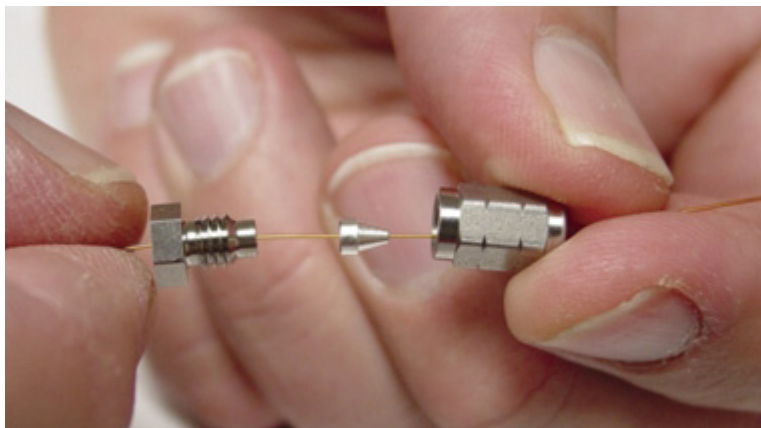

Figure 4 Assemble the internal nut, ferrule, and swaging nut
- 2 Pass the tubing end through the internal nut and SilTite ferrule leaving approximately 1 cm of fused silica tubing protruding beyond the ferrule. Thread the ferrule pre-swaging tool onto the internal nut with the tube protruding (see Figure 4).